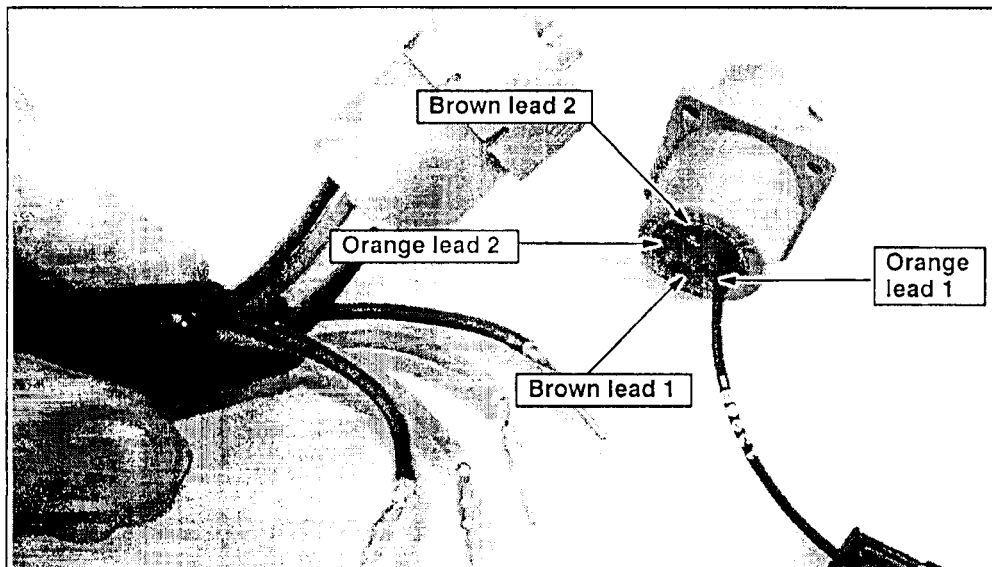

Figure 8.
15. Load the open orange and brown leads into the driver evaporator harness connector, as shown in Figure 8.